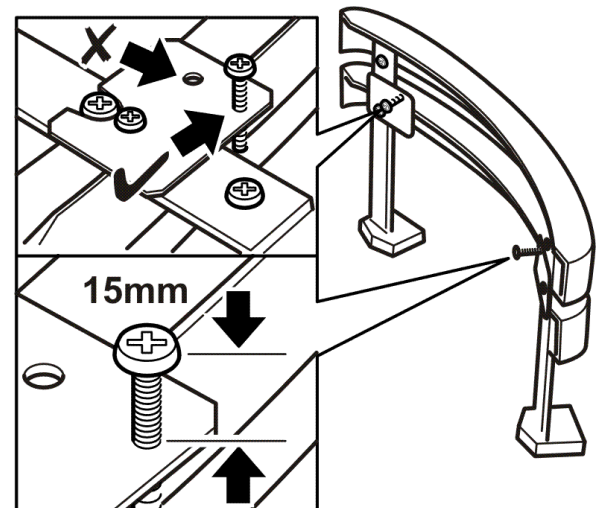

Figure 30. Bracket location
2. The screw should be set at a distance of 15mm (Measured from the surface of the bracket to the underside of the screw head). Adjust the screw to this distance (See figure 30).